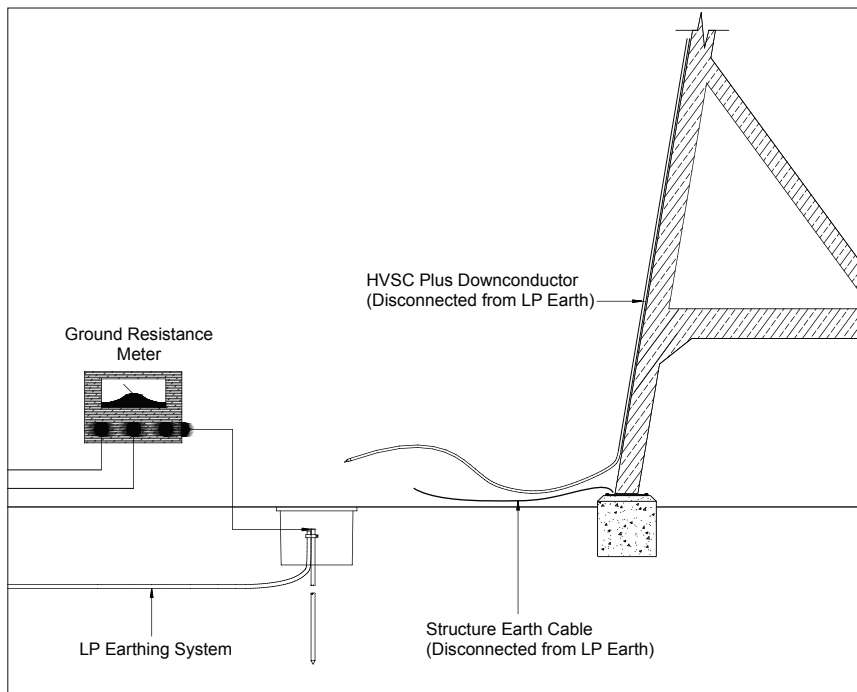

Figure 42.
1. Disconnect the bonding cable from the structure to the lightning earth, as shown in Figure 42.